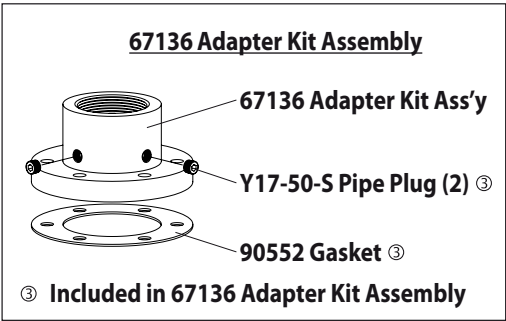

Figure 4
| 7    | Adapter (see Figure 4)               | (1) | 67136                |